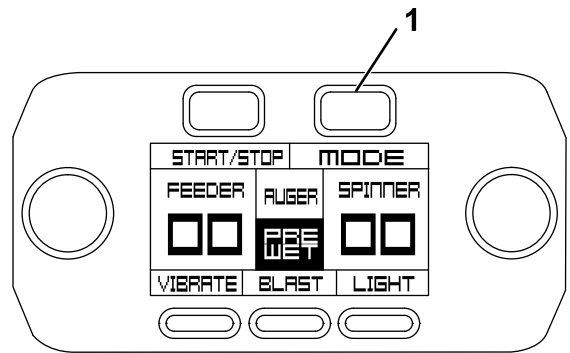

Figure 49
1. To configure the dump switch, press the Mode button on the controller (Figure 49).